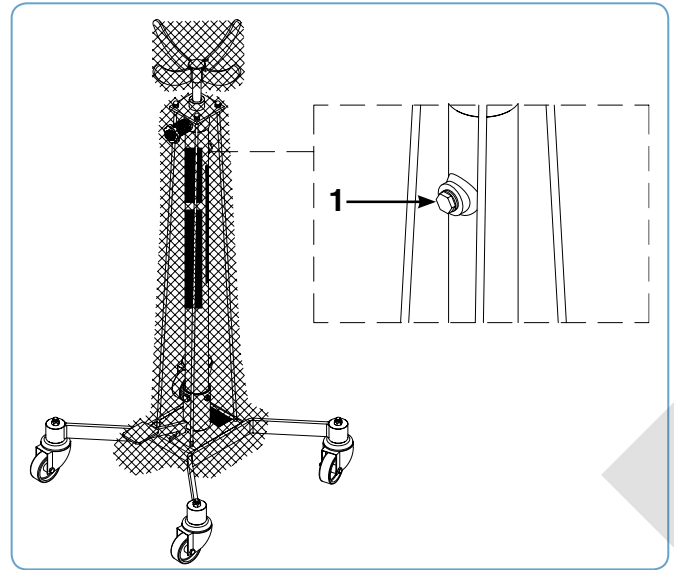

Fig. 4
The equipment is integrally packed, without separated and unassembled parts (cradle fully lowered), and in wrapped up in protective material, cardboard (Fig. 4).
It may be laid down on one side, provided that you first check that the plug that is mounted on the external chamber (1 Fig. 4) is the one without airholes, so that any oil leaks possibly occurring can be avoided.
Check the presence of the lid with vent hole to be replaced with the plug (1 Fig. 4) used for transporting according to the methods indicated in paragraph: 7. Start up page 11.
- 2 Remove the lid without a vent hole (1 Fig. 4). It is recommended that the lid without vent hole be kept for any future transporting.